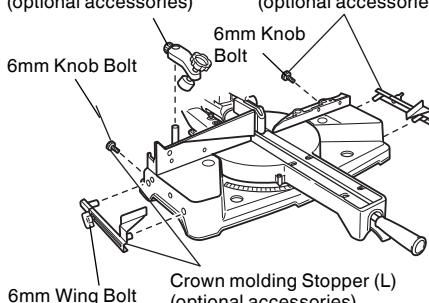

Fig. 40-a
- (1) Crown molding Stopper (L) and (R) (optional accessories) allow easier cuts of crown molding without tilting the saw blade. Install them in the base both-sides side to be shown in Fig. 40-a. After inserting Tighten the 6mm knob bolts to secure the crown molding Stoppers.